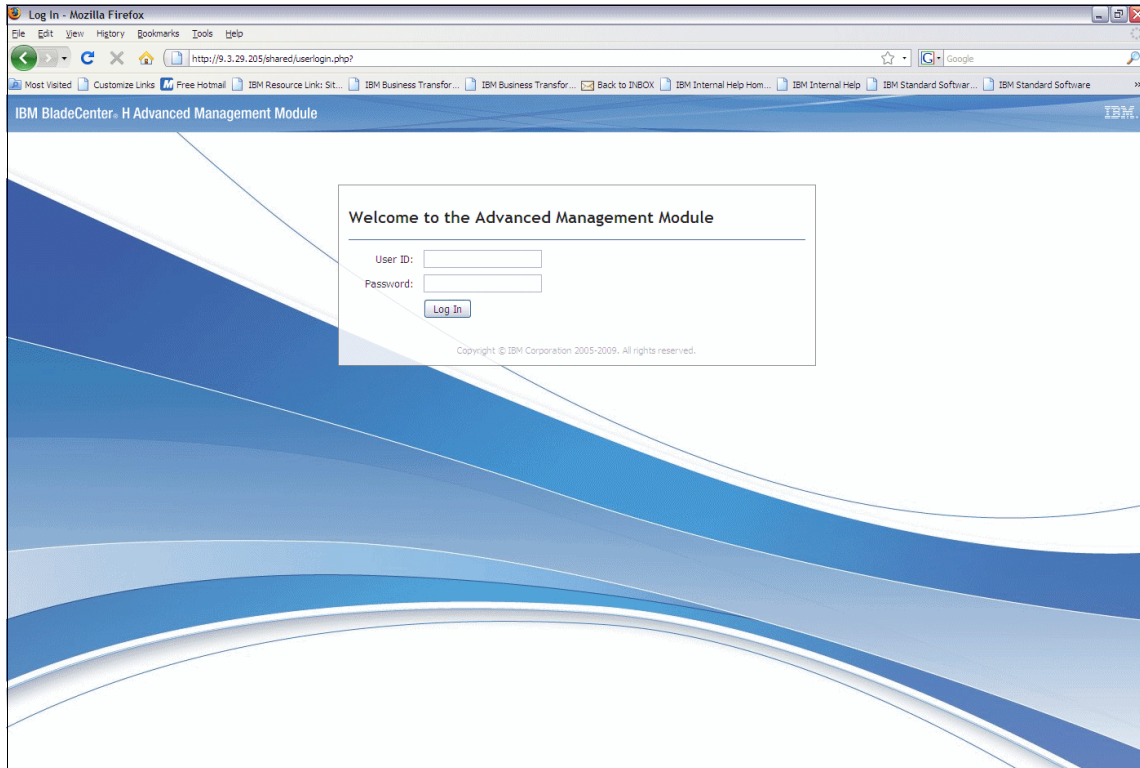

Figure A-2 AMM login panel
1. To open a remote control session, log on to the management module with your Web browser. The default IP address of the management module is 192.168.70.125/24. Enter the user name and password and click **Log In** as shown in Figure A-2 on page 497. The default account with all administrative rights is USERID with password PASSWORD.